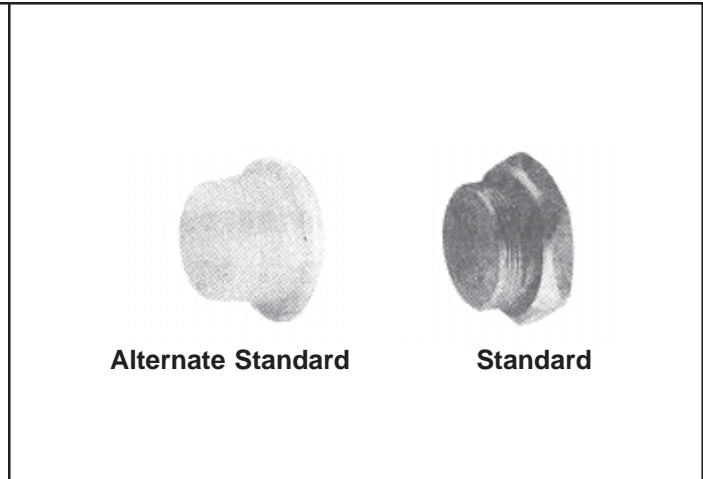

Figure 7 - Vent Protector Plugs
- 1.1.7** Remove the vent protector from the emergency portion and apply a manufacturer's standard or alternate vent protector plug, a shown in Figure 7, then remove the emergency portion and, after moving the piston ("AB" only) into release position, immediately apply to it the spare shipping cover and tighten its holding nuts. The emergency portion must be carefully handled to avoid entrance of dirt, water or damage to internal parts.